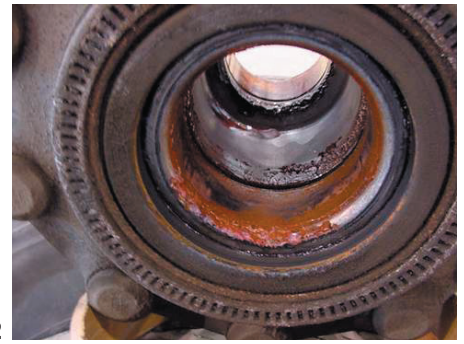

Figure 2
2. Fretting corrosion between the bearing cones and axle spindle (see figure 1 and figure 2)